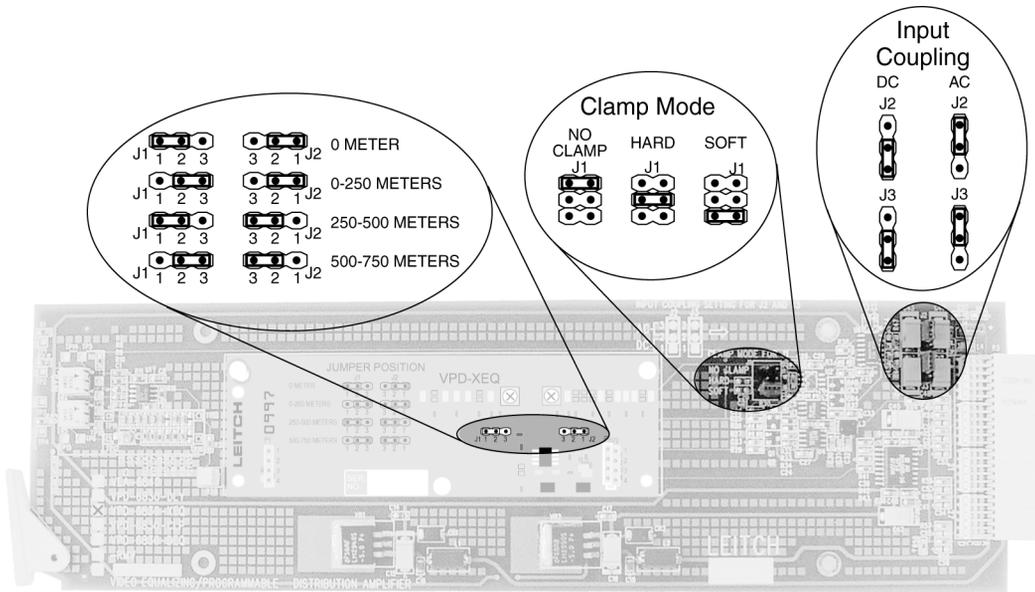

Figure 8-7. VPD-6830-XEQ Jumper Locations
1. Set the **Input Coupling** for either AC or DC coupling using jumpers **J2** and **J3**. See Figure 8-7 on page 76 for jumper locations.
2. Set the **Clamping** mode on jumper **J1** to either **Soft**, **Hard** or **No Clamp**. See Figure 8-7 on page 76 for jumper location.
6. Select the cable length range compensation with jumpers **J1** and **J2**, located on the VPD-SBEQ submodule. See Figure 8-7 on page 76.
The **R6** equalization potentiometer on the VEA-6840 (Figure 8-7) is used for continuous equalization adjustments from 0 to 1000 ft (300 m).